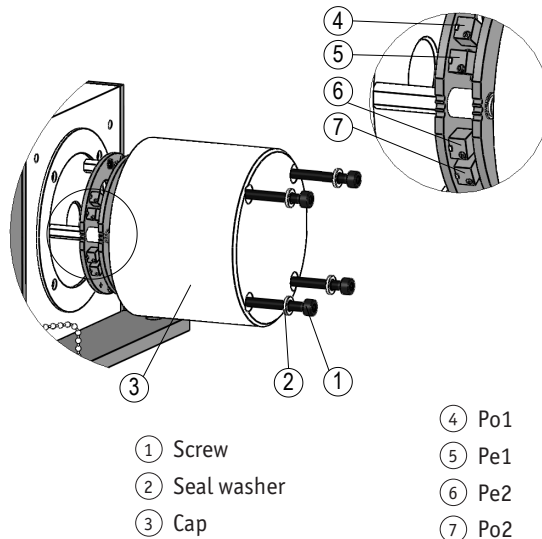

Fig. 8: Setting up the trim potentiometers
Casing of wire-actuated part is equipped with four plugs ① for aeration (see Fig. 8), if necessary. Water/humidity inside the casing can be easily evacuated by removing the plugs ①.
### Adjusting the trim potentiometer (Fig. 8)